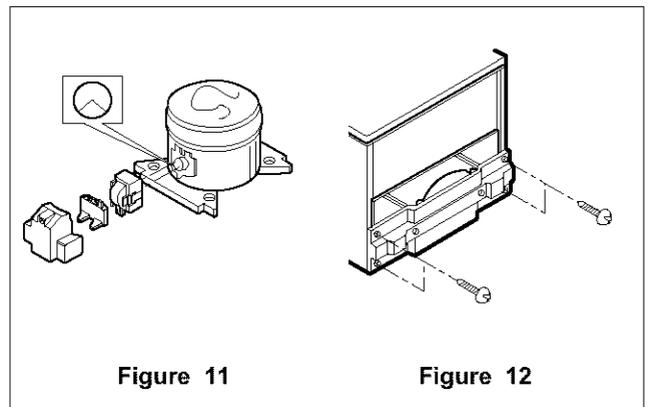

Figure 11
1. Remove Protector Cover, Power Cord, and Lead Wire first. (Figure 11)